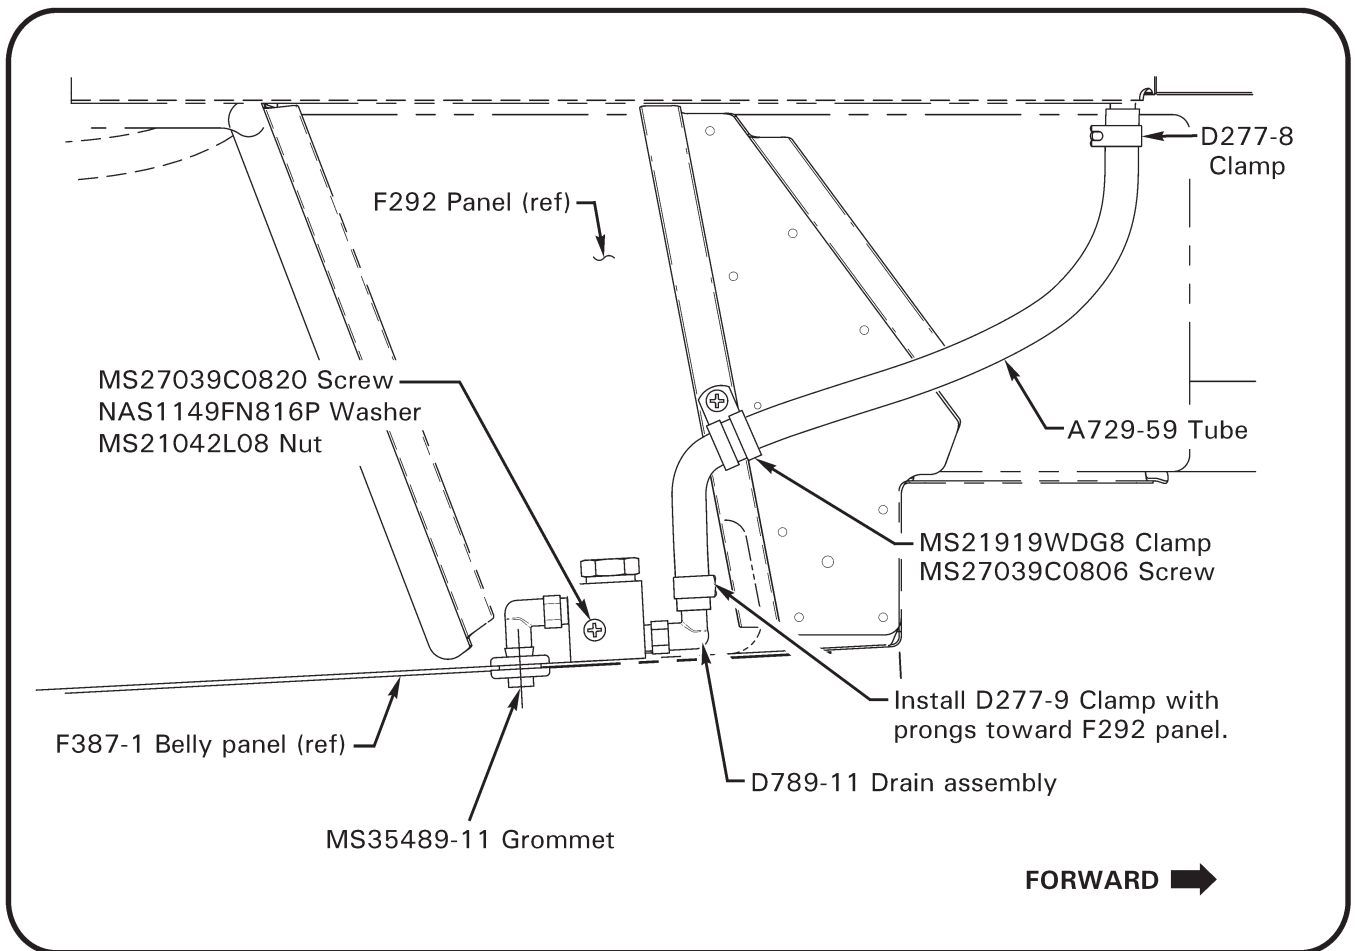

Figure 3 Drain installation
7. Refer to Figure 3. Install MS35489-11 grommet.